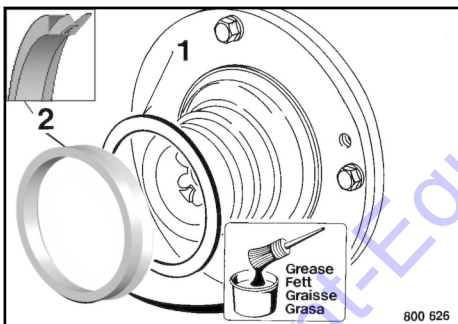

Fig. 243
1. Attach shim 1 ↪ Fig. 243.
2. Install the new V-ring (2) on the bearing flange and grease it as shown.